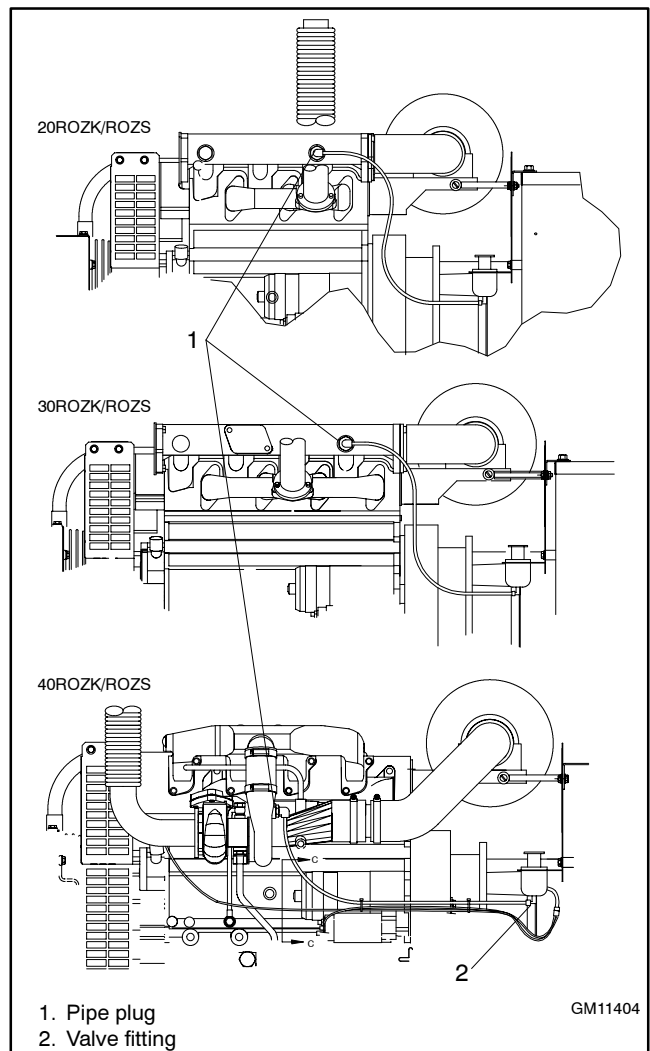

Figure 2 Pipe plug location
1. Remove the pipe plug from the intake manifold closest to the air cleaner. See Figure 2.
1. Remove the pipe plug from the pressure side of the turbo charger. See Figure 2.
4. Install the fitting into the ether valve finger tight, then tighten an additional one to two turns. See Figure 2 for location.